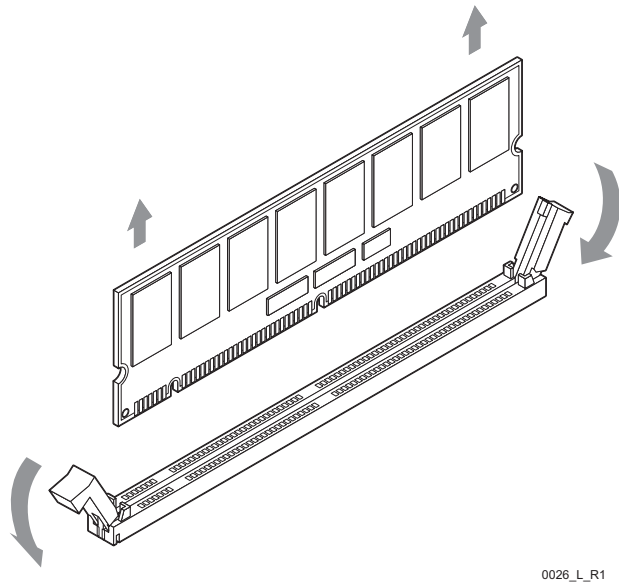

Figure 14-3. Releasing the Data Cache from the DIMM slot
- 12 Release the data cache DIMM by pressing outward on the two tabs on the sides of the DIMM, as shown in Figure 14-3.